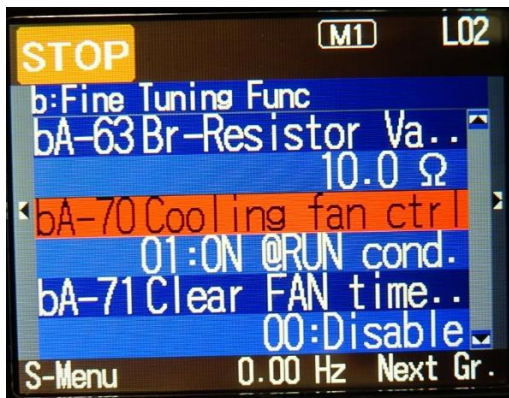

Figure 35: Cooling Fan Operation Modification
6.6.1.12 **Select** and **Set** bA-70 to 01: While inverter operates, in order to set the cooling fan to operate only while the inverter is in operation. See *Figure 35* below for confirmation.